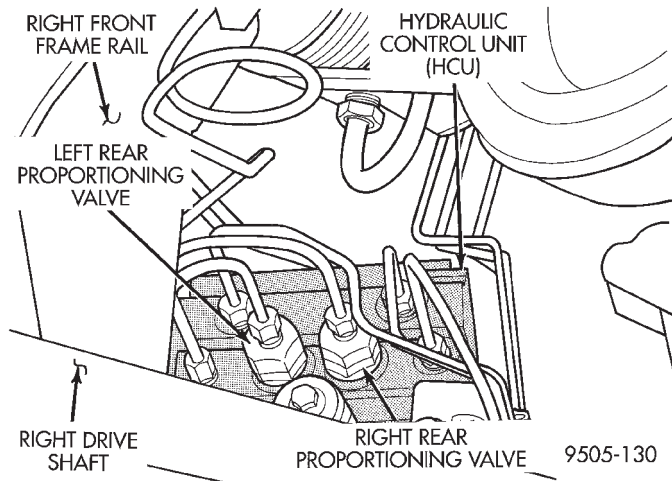

Fig. 27 Proportioning Valve Locations On HCU
One proportioning valve controls the right rear brake, and the other proportioning valve controls the left rear brake (Fig. 27). Therefore, a road test to determine which rear brake slides first is essential. Once the wheel which is skidding first is determined, use the following procedure to diagnose the proportioning valve.
(1) After road testing the vehicle to determine which rear wheel exhibits premature ABS cycling, refer to (Fig. 27) to determine which proportioning valve needs to be tested.
- (2) Remove hydraulic brake line (Fig. 27) from proportioning valve controlling the rear wheel of the vehicle which has premature wheel skid.
- (3) Then remove proportioning valve from that outlet port of the HCU.